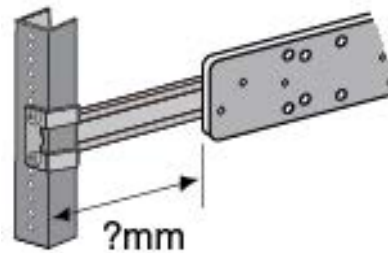

Figure 111. Measuring for the Extension Brackets
3. Measure the distance from the front of the equipment rack to the front of the inner rail. This will be the approximate length of the extension brackets. Refer to Figure 111.